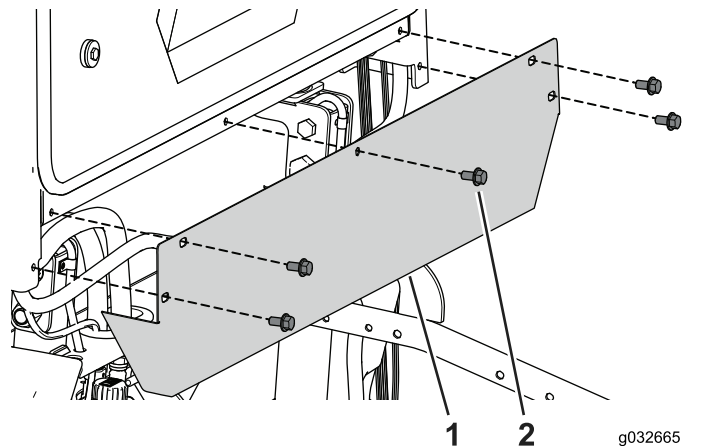

Figure 107
1. Remove 5 bolts securing the rear cover to the cab (Figure 107).